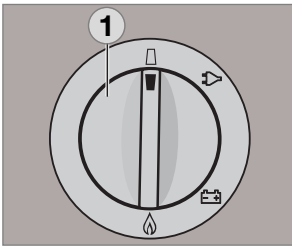

Fig. 45
- For battery igniter models, set energy selector switch **(1)** to position "OFF". The appliance is switched off (Fig. 45).